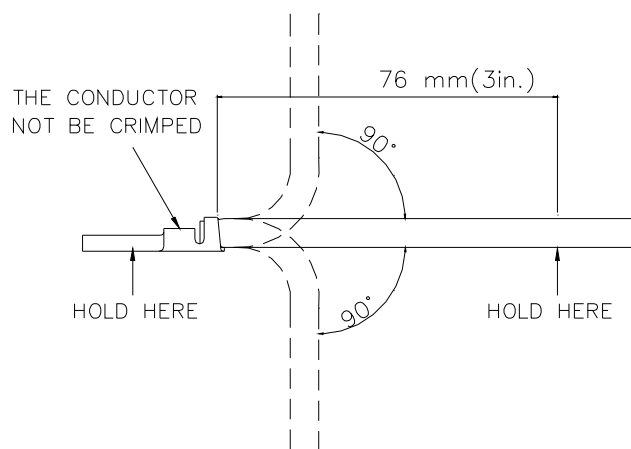

Figure 2
- Bend the specimen up 90° and down 90°, one time each (see Figure 2)